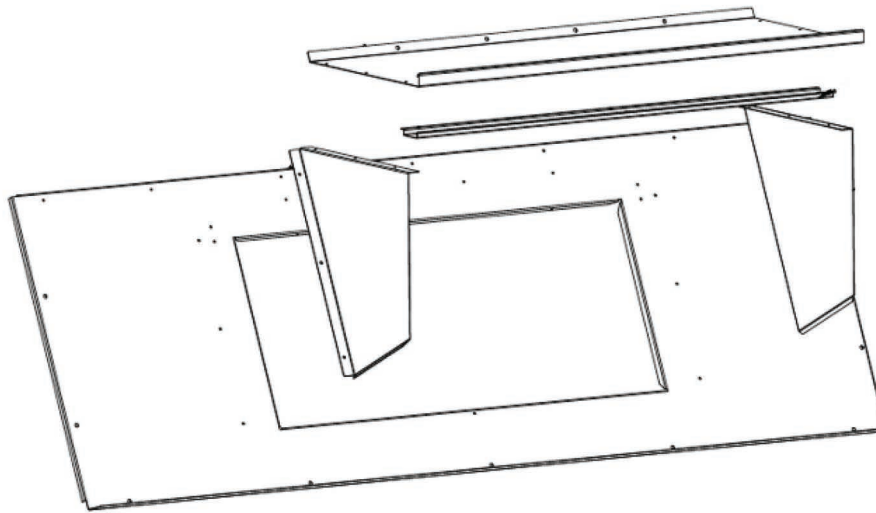

Fig. 16 — Barometric Hood Exploded View
3. Install parts as shown in the following exploded view (see Fig. 16) using the seal strip and screws provided in the parts box.